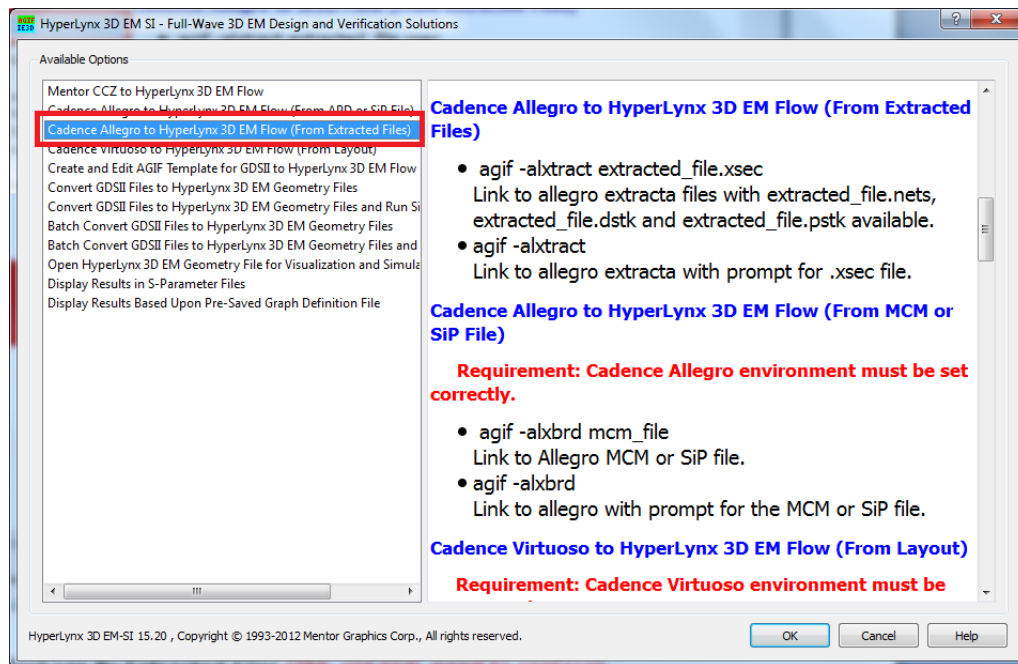

Fig. 7 Import Package By Extracted Files
7. The imported structure should be showing up as shown in Fig. 7